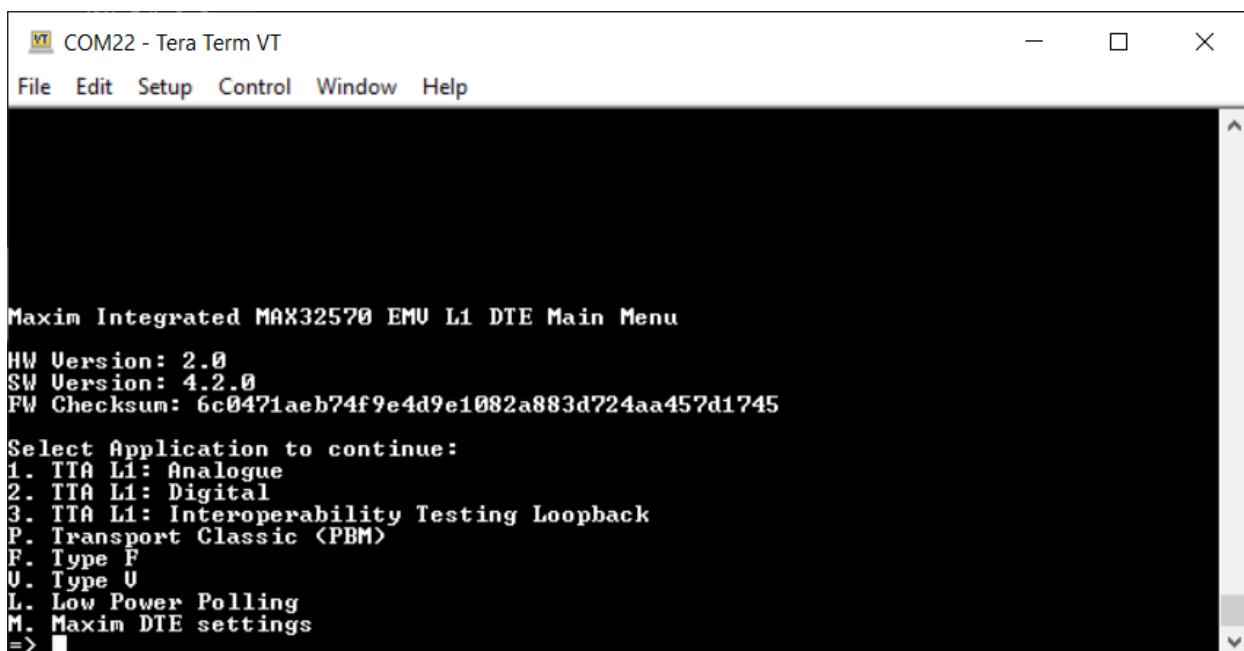

Figure 2: DTE Top Level Menu
- Press the space bar until main DTE menu is displayed as shown in Figure 2.
Finally press *OK* to exit the *Serial port setup* menu. Click in the Tera Term main window and press the space key repeatedly to cycle to the DTE Top level menu as shown in Figure 2.
The main, top level menu shown in Figure 2 and Figure 7, has three entries for the required test sections of EMV Level 1. Note, the EVKit does not support any Level 2 functions. The interface is straightforward, press the key shown for each menu item to select it.